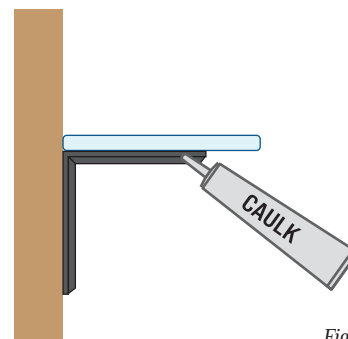

Figure 2
6. Apply caulk along sides of bracket under countertop (see Figure 2).